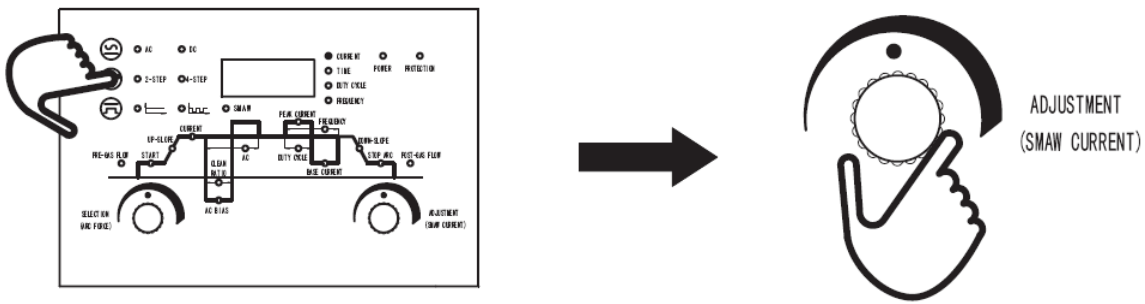

Fig. 4-6-9: Hot start current adjustment
**Hot start current** - In SMAW mode, press  button to enter into hot start current selection menu, then turn  knob to adjust the hot start current (Range: 10~200A, factory setting: 50A).(Fig. 4-6-9)